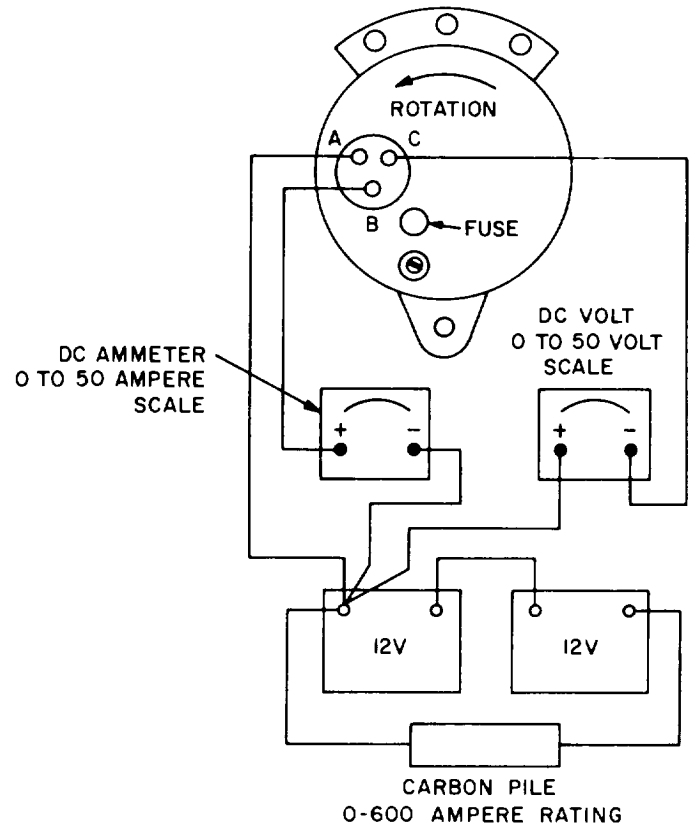

Figure 8-6. Alternator output test
2. Connect circuit as shown in figure 8-6.